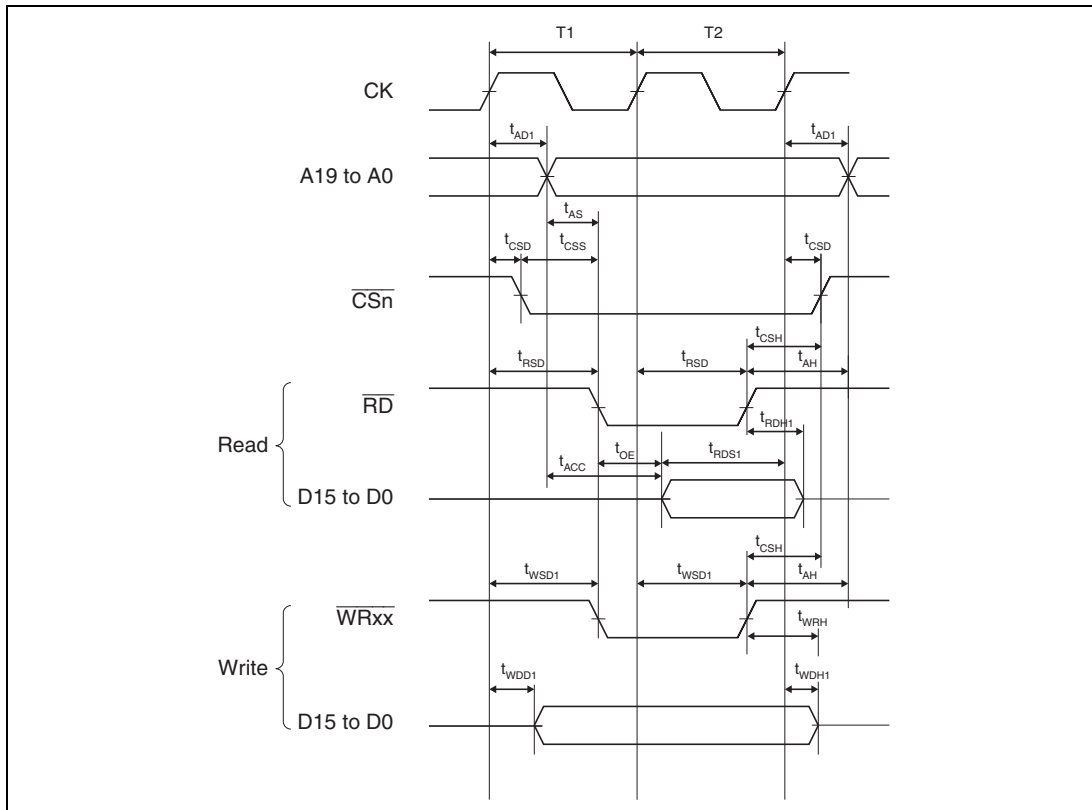

Figure 24.11 Basic Bus Timing for Normal Space (No Wait)
| Address delay time 1 | t_{AD1} | 1 | 18 (20)* ³ | ns | Figures 24.11 to 24.15 |
| Address setup time | t_{AS} | 0 | — | ns | Figures 24.11 to 24.14 |
| Address hold time | t_{AH} | 0 | — | ns | Figures 24.11 to 24.14 |
| \overline{CS} delay time | t_{CSD} | 1 | 18 (20)* ³ | ns | Figures 24.11 to 24.15 |
| \overline{CS} setup time | t_{CSS} | 0 | — | ns | Figures 24.11 to 24.14 |
| \overline{CS} hold time | t_{CSH} | 0 | — | ns | Figures 24.11 to 24.14 |
| Read strobe delay time | t_{RSD} | $1/2t_{Bcyc} + 1$ | $1/2t_{Bcyc} + 18$ (20)* ³ | ns | Figures 24.11 to 24.15 |
| Read data setup time 1 | t_{RDS1} | $1/2t_{Bcyc} + 18$ (20)* ³ | — | ns | Figures 24.11 to 24.15 |
| Read data hold time 1 | t_{RDH1} | 0 | — | ns | Figures 24.11 to 24.15 |
| Read data access time | t_{ACC}^{*2} | $t_{Bcyc} \times (n + 1.5)$ $- 33^{*1} (35)^{*3}$ | — | ns | Figures 24.11 to 24.15 |
| Access time from read strobe | t_{OE}^{*2} | $t_{Bcyc} \times (n + 1)$ $- 33^{*1} (35)^{*3}$ | — | ns | Figures 24.11 to 24.15 |
| Write strobe delay time 1 | t_{WSD1} | $1/2t_{Bcyc} + 1$ | $1/2t_{Bcyc} + 18$ (20)* ³ | ns | Figures 24.11 to 24.15 |
| Write data delay time 1 | t_{WDD1} | — | 18 (20)* ³ | ns | Figures 24.11 to 24.15 |
| Write data hold time 1 | t_{WDH1} | 1 | 11 | ns | Figures 24.11 to 24.15 |
| Write data hold time | t_{WRH} | 0 | — | ns | Figures 24.11 to 24.14 |